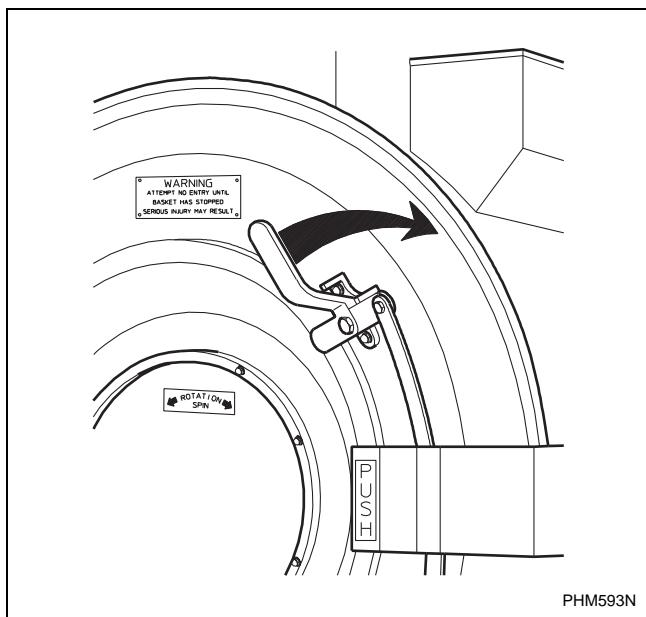

Figure 26
- Use right hand to turn door handle clockwise and swing the door left to open. Refer to *Figure 26*.